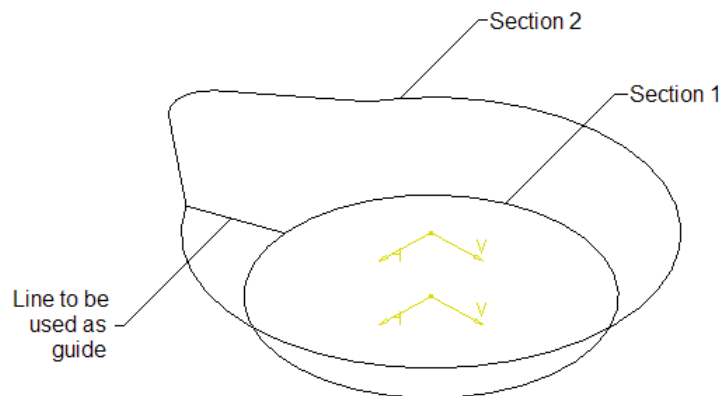

Figure 9-48 The line created between two points on the sections
8. Choose the **Line** button from the **Wireframe** toolbar, the **Line Definition** dialog box is displayed. Create the line by selecting the two points, as shown in to Figure 9-48.
2. Select section 1, as shown in Figure 9-48. The name of the selected entity is displayed in **Curve** selection area of the **Multi-sections Surface Definition** dialog box. By default, a closing point is created. Move the cursor on the text **Closing Point1** in the geometry area and right-click to invoke the contextual menu.
6. Next, click in the **Guide** selection area to invoke the selection tool; you are prompted to select a curve. Select the guide curve shown in Figure 9-48.